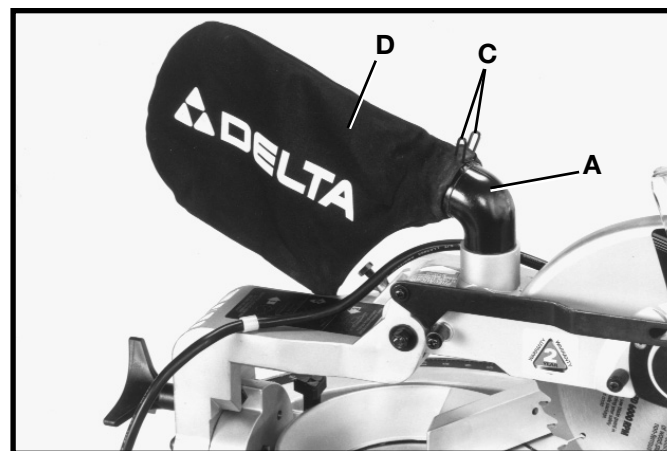

Fig. 21
2. Compress spring clips (C) Fig. 21, on dust bag (D) and clip dust bag onto end of elbow (A) as shown.